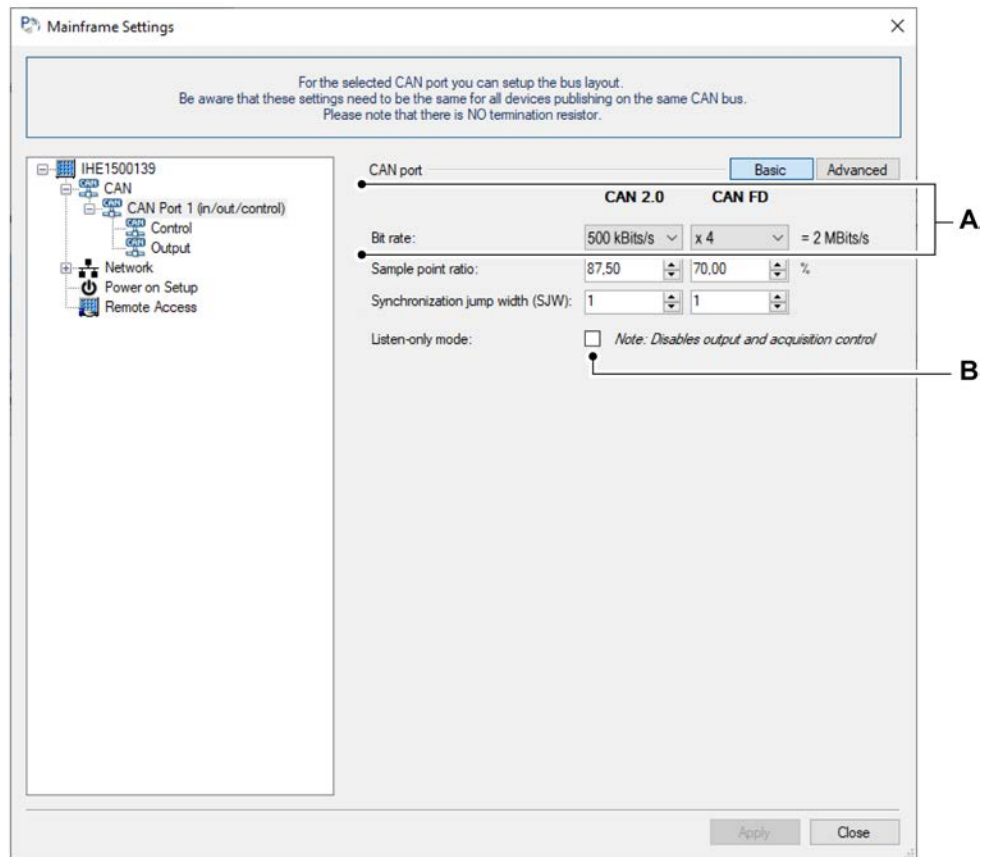

Figure 11.63: Mainframe Settings-CAN bus settings
- C** Select the **CAN port setup...** button to open the **Mainframe Settings** as shown in Figure 11.63.